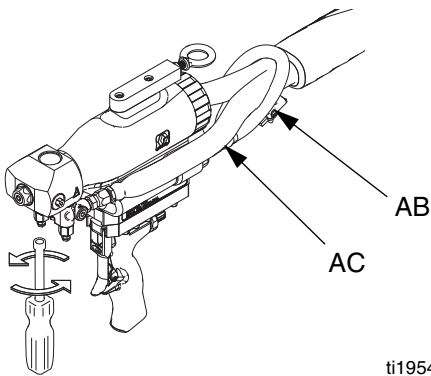

FIG. 12
5. Disconnect air line (AC). See FIG. 12.